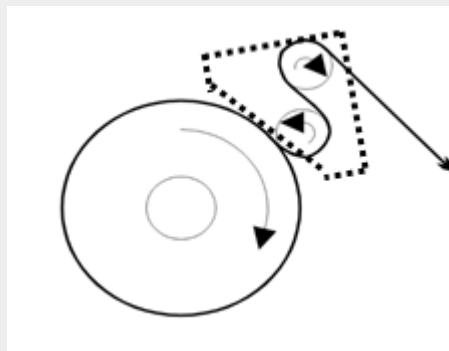

Figure 4.5 : Film in the film stretcher seen from above.
5. Thread the film as shown on Figure 4.5 and swing back the tensioner onto the film roller.